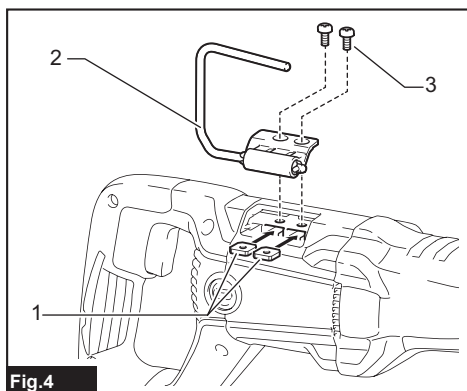

Fig.4
- **Fig.4:** 1. Square nut 2. Hook 3. Screw